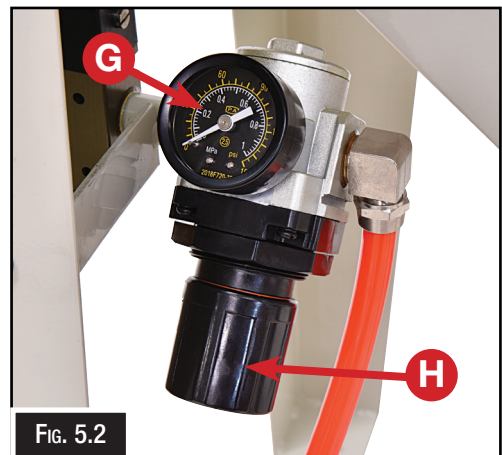

FIG. 5.2
3. **Pressure Gauge:** Displays the air pressure supplied to the machine (G). (Fig. 5.2)
4. **Air Pressure Adjustment:** Adjusts the air pressure supplied to the machine (H). (Fig. 5.2)